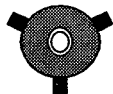

Fig. 3-22
2. Insert the wedge between the deflection yoke and CRT funnel to lock the deflection yoke. (Fig.3-22)